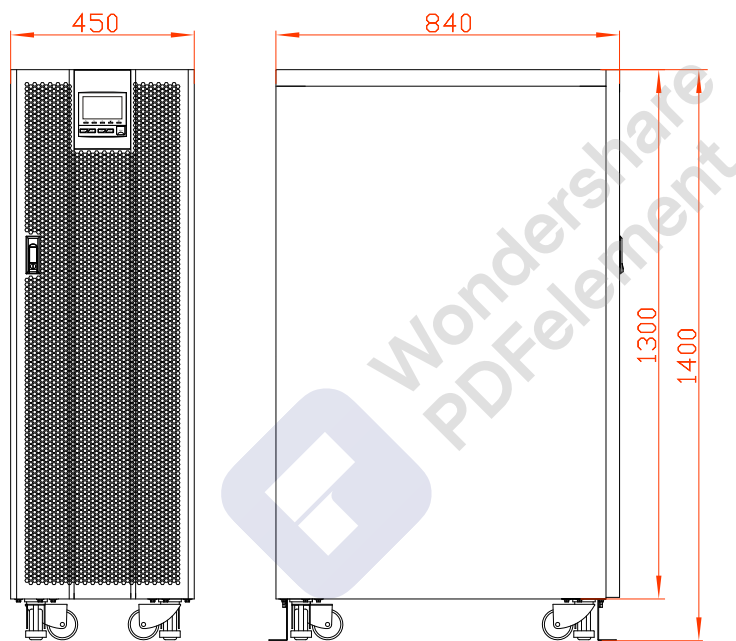

Figure3-12 Size of PS-POU 80kW, PS-POU 100kW, PS-POU 120kW
- Step 1 Determine and plan the installation position according to the UPS size (as shown in Figure 3-12) and installation clearance requirement (see 3.2.3 Installation).